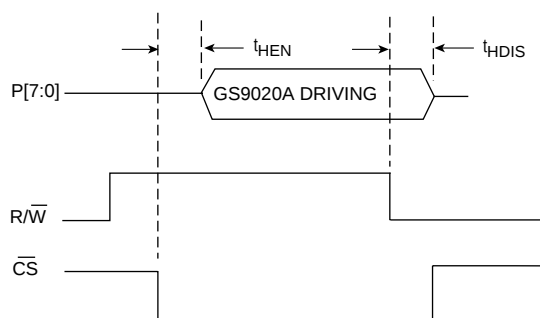

Fig. 14b HOSTIF Parallel Port Output Enable & Disable Times
- C) The GS9020A drives the P[7:0] bus when the R/ $\overline{W}$ pin is HIGH and the $\overline{CS}$ pin is LOW. At all other times, the P[7:0] port is in a high impedance state. The host interface enable and disable times are shown in Figure 14b and are specified in the AC timing information. In this figure, the rising/falling edges of R/ $\overline{W}$ and $\overline{CS}$ are not aligned to illustrate that the state of the P[7:0] I/Os is only a combinatorial function of the R/ $\overline{W}$ and $\overline{CS}$ pins.